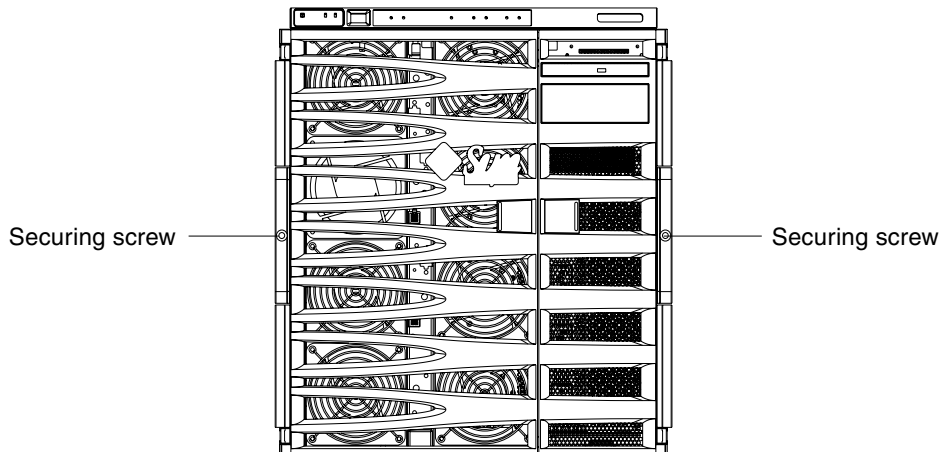

FIGURE 1-12 Tightening the Securing Screws
11. Tighten the two securing screws on the front of the system to secure the system in the cabinet (FIGURE 1-12).